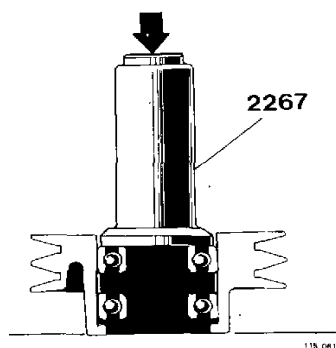

Fig. 199. Fitting front and rear bearing into the pulley
7. Using drift 2267 press the rear bearing into the pulley (fig. 199). The sealed side of the bearing should face downwards.